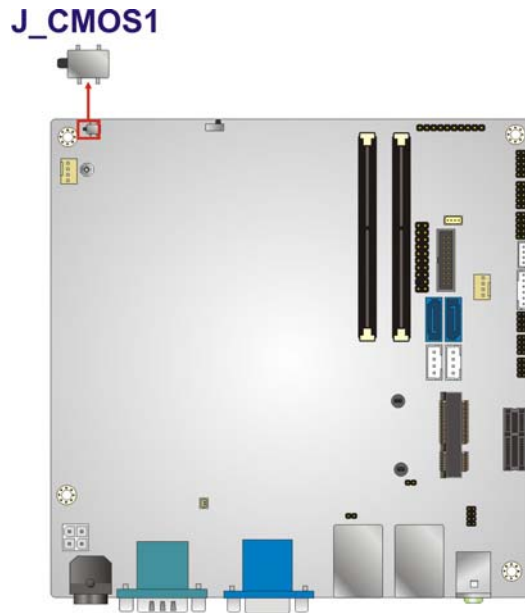

Figure 3-4: Clear CMOS Button Location
- CN Location:** See Figure 3-4
The location of the clear CMOS button is shown in Figure 3-4.